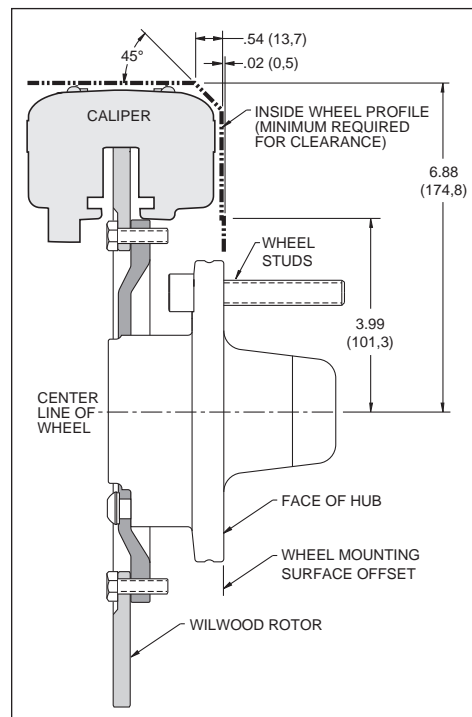

Figure 3. Wheel Clearance Diagram
- Review the wheel clearance diagram (Figure 3, page 5) to verify that there is adequate clearance with the wheels you will be using with the installation. This kit will result in the wheels being moved out approximately .50" beyond the stock location.